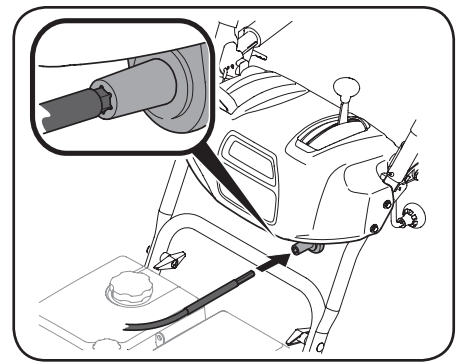

Figure 2-39
6. Insert hex end of flex shaft into chute control rod coupling under dash panel. See Figure 2-39.